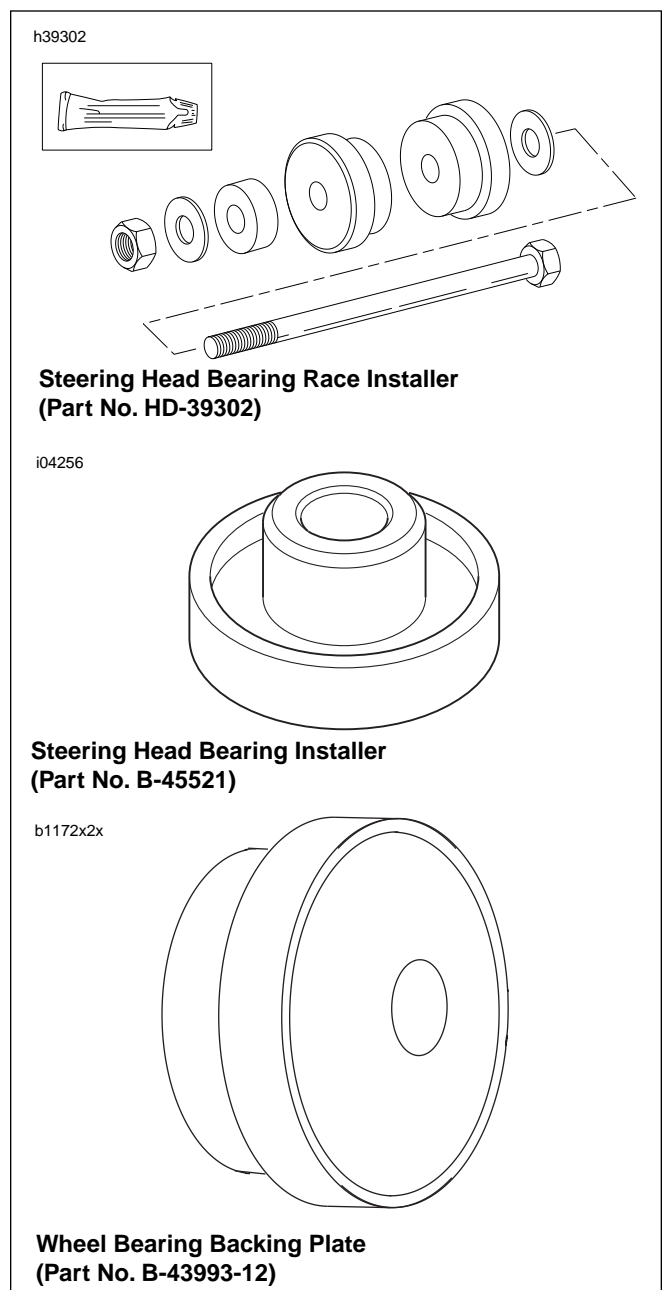

Figure 2-78. Steering Head Bearings Installation Tools
1. See Figure 2-78. Install **new** upper steering head bearing into the frame neck using STEERING HEAD BEARING RACE INSTALLER (Part No. HD-39302), the STEERING HEAD BEARING INSTALLER (Part No. B-45521) and backing plate (B-43993-12) from the wheel bearing installation kit.
- b. See Figure 2-78. Insert the steering head bearing installation tool into the upper bearing, with the shoulder into the bearing bore.